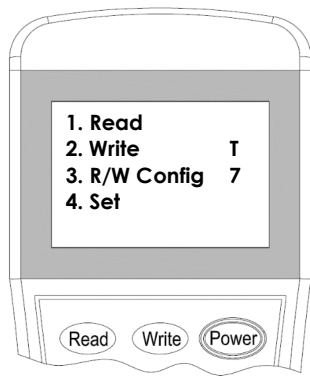

Figure 4
2. Switch-on the programmer, then press button **"Write"** or number **"2"** to enter Write Address mode (Figure 4).